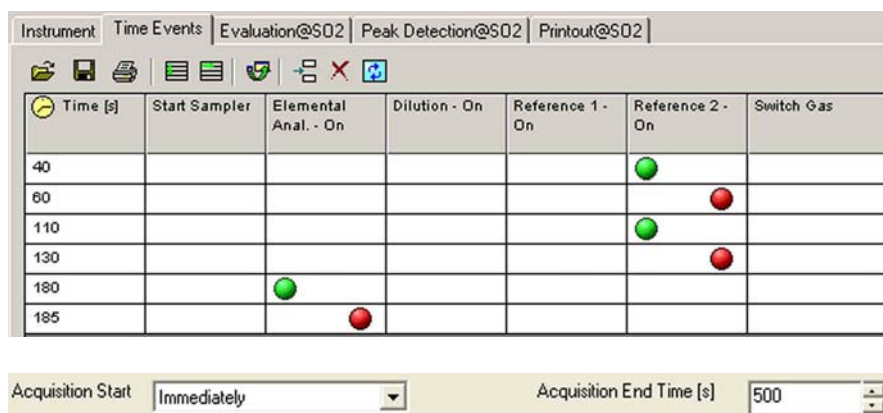

Figure 7-20. Starting sulfur measurement - Time Events tab
This section summarizes the events that happen during data acquisition. See Figure 7-20, Figure 7-29 and Figure 7-30.
3. Second SO₂ reference gas pulse activated at 110 s (duration: 20 s). It is assigned as standard pulse for δ value calculation. See Time column in Figure 7-20 and to Peak No. 2 in Figure 7-30.